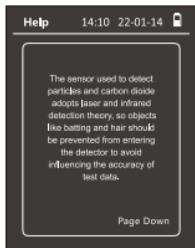

fig.26
1. Help: Press \blacktriangle or \blacktriangledown to view the information that help you use the detector. Press \blacktriangleleft to back to set interface (fig.26).